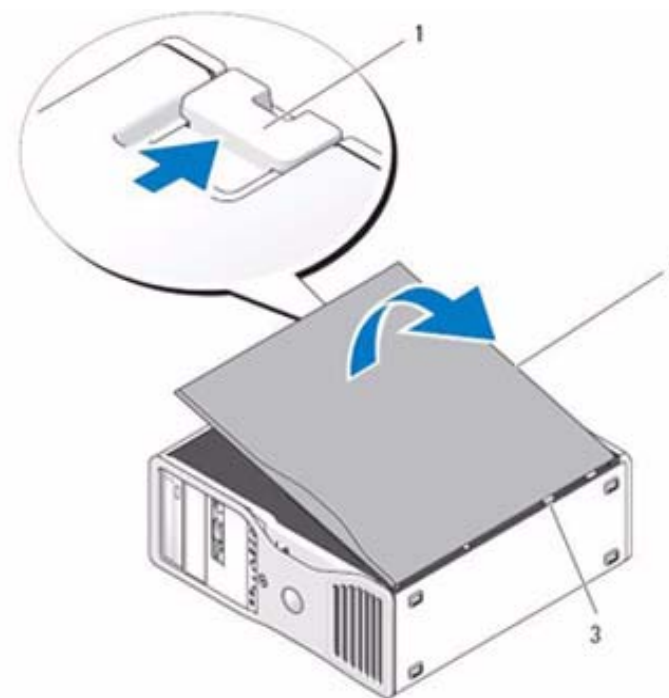

Figure 4: Open Computer
- a. Pull back the Cover and release the latch as shown in Figure 4.